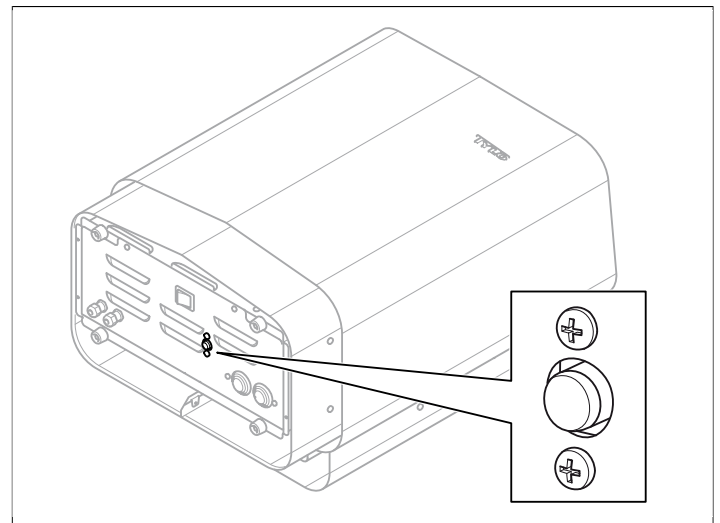

Figure 23: Resetting the temperature cut-out
- Another temperature cut-out in the water reservoir protects the element from boiling dry. There is a red button under the heater which can be pressed in (see **Figure 23**, Page 12). If the temperature cut-out has been triggered, you will hear a click when you press it in. If the cut-out has not been triggered, the button will feel springy.